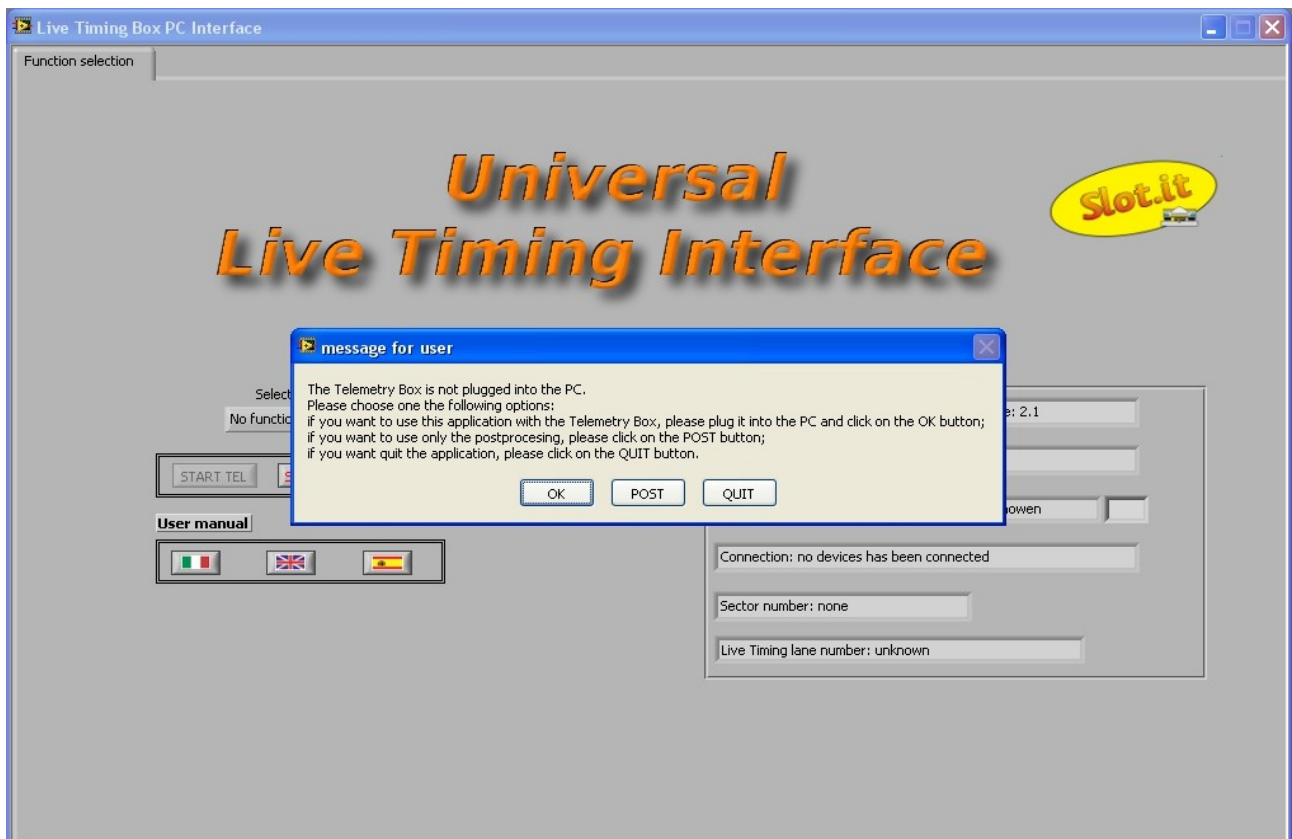

Figure 2: starting windows *Live Timing Box PC Interface* with no *Universal Live Timing Box* connection.
If no *Universal Live Timing Box* (figure 2) is connected, connect the *Universal Live Timing Box* to the PC and push "OK".
- "no box": no *Universal Live Timing Box* is connected to the PC (the situation is the one of figure 2);